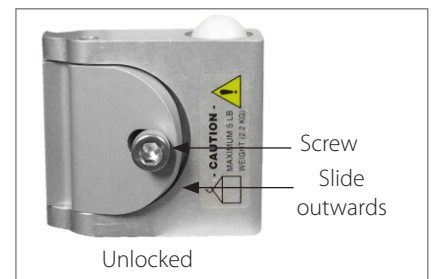

Figure 3
-  **NOTE:** When the screw is turned clockwise, it causes the side of the V-adapter to slide inward, locking the V-adapter (**Figure 2**). When the screw is turned counter-clockwise, it causes the side of the V-adapter to slide outward, unlocking the V-adapter (**Figure 3**).